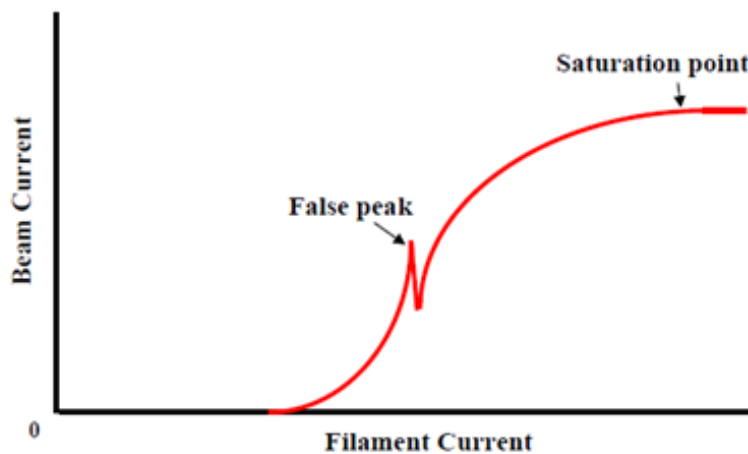

Figure 7 Filament saturation procedure
- Height and intensity of filament current signal indicates beam current, as shown in Figure 7.
- Turn on knob until signal gets stabilized (1 false peak should be passed), as shown in Figure 7